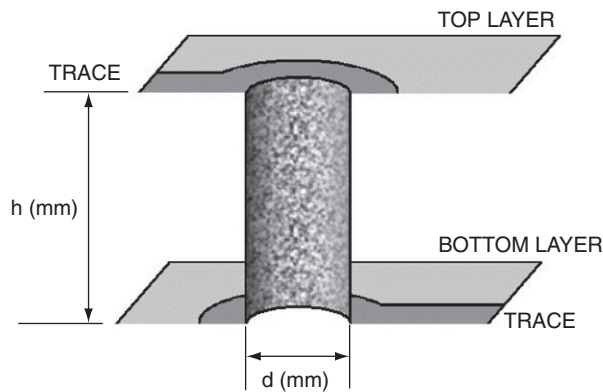

Figure 23.14: Via inductance measurements.
Whenever routing constraints force a *via* (connection between layers of a PCB, Figure 23.14), a parasitic inductor is also formed. At a given diameter (d), the approximate inductance (L) of an via at a height of (h) may be calculated as follows: